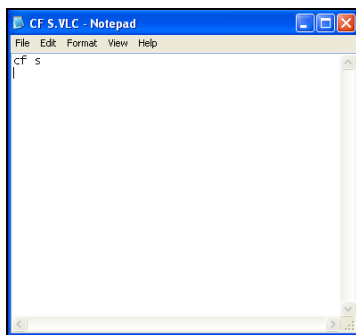

Figure 38: Erasing and Replacing Current Settings
13. Erase all the current settings, and replace them with "cf s". Refer to **Figure 38**.